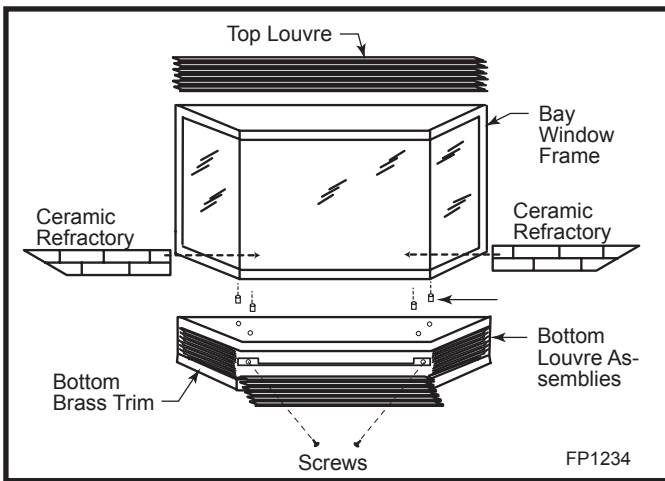

Fig. 55 Bay window installation.
4. Place the 2 pieces of ceramic refractory along the base of the bay window. (Fig. 55)